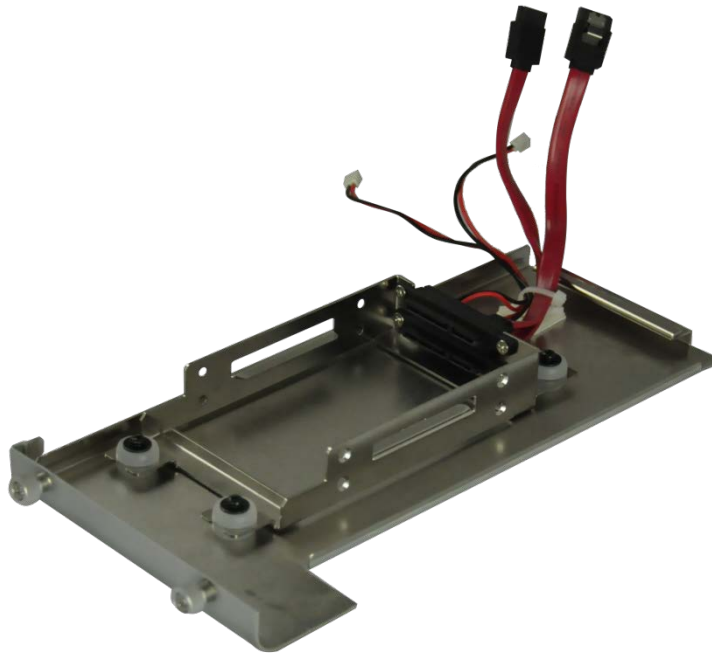

Figure 3-2: Remove the Cover from TANK-870e-H110
Step 2: Unplug the SATA signal and power cables connected to the TANK-870e-H110, and then put the cover on a flat surface (**Figure 3-2**).